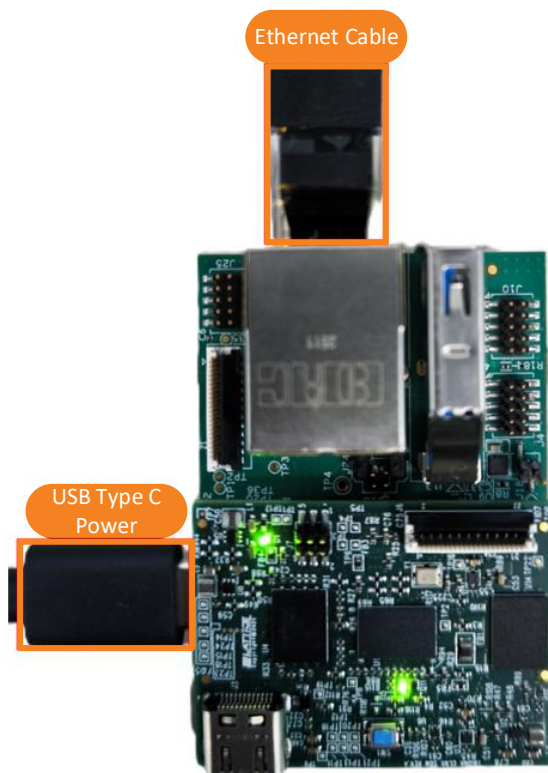

Figure 5.22. CrossLinkU-NX SoM with Ethernet Connection
- Connect the CrossLinkU-NX SoM kit's LAN connection (shown in Figure 5.22) to the LAN port of the host PC directly using an Ethernet cable.
1. Connect the CrossLinkU-NX SoM kit's LAN connection (shown in Figure 5.22) to one of the LAN ports on the router.